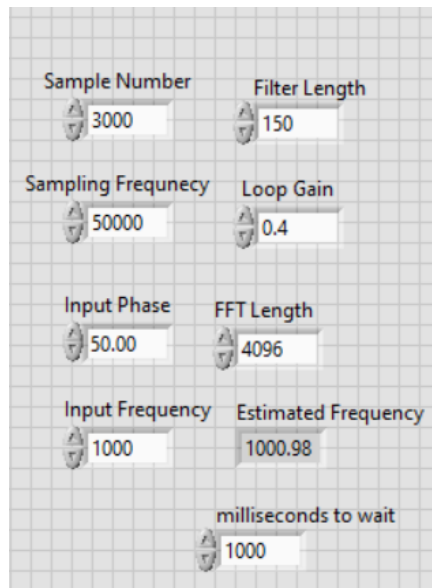

Fig. 1. Default Front Panel Parameters
- h) Set the parameters, as shown in Fig.1. Only for this part, fix the VCO frequency to 1000 Hz, i.e., it is not determined by the estimated frequency. Gradually **increase the** input frequency with 10Hz steps. Determine the **frequency** where PLL is **not locked any longer**. Note this value in your **reports**. Also, **attach** plots of input and not-locked signals at this frequency value. **Comment** on your results.
- i) Set the parameters, as shown in Fig.1. Now you need to observe the effect of the loop gain. **Increase the loop gain from 0.05 to 2 in 0.2 steps. Determine the value of loop gain where the PLL does not lock on the input signal. Write this value in your report. Also, attach plots of input and locked signals at this loop gain value, and at loop gain value 0.05. Comment on the effect of small and large loop gain. Briefly compare your results with your theoretical expectations.**